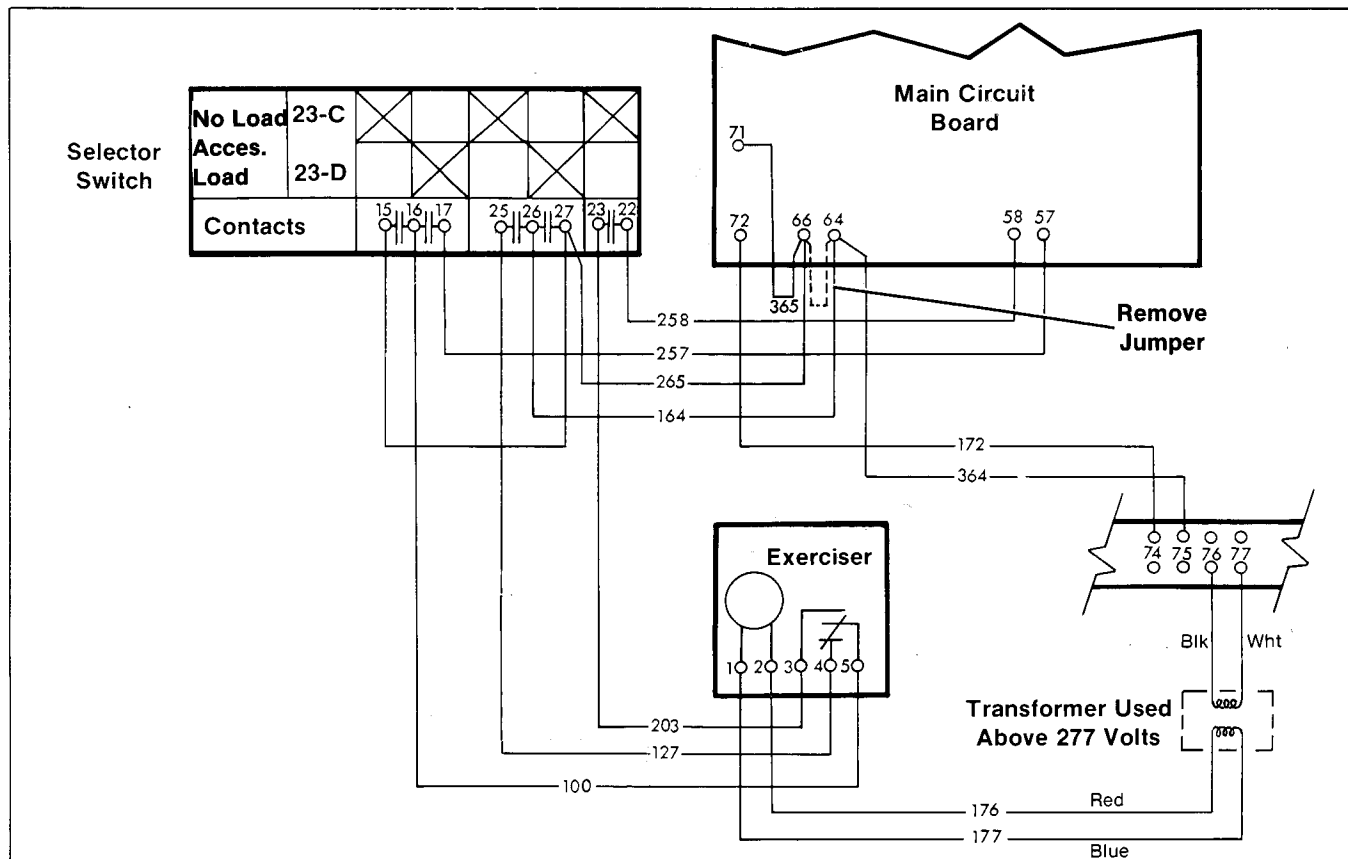

Figure 29. Exercise Timer (with Transfer/No-Transfer)
- **Acc. 23-G Plant Exerciser With Selector Switch**—to select a simulation of power failure or engine test mode. Select a 23-C or 23-D type of operation. See Figure 29 for connections.